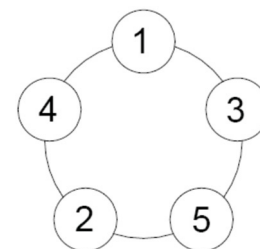

Figure 15
- b. Tighten bolts or nuts in the sequence shown (Figure 15).